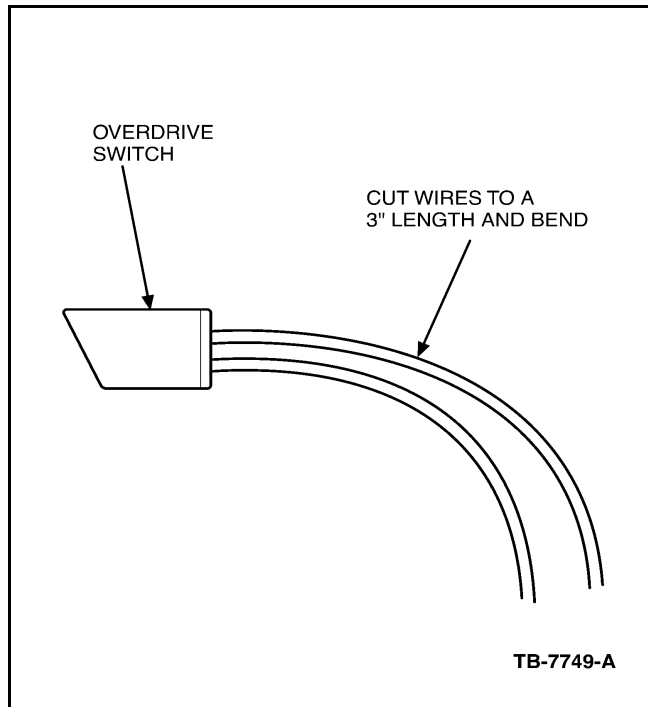

Figure 2 - Article 03-24-3
10. Install a new overdrive switch (OD) and wire assembly. Cut the wires three inches (3") from the switch and form the wires in an arc as shown in (Figure 2).